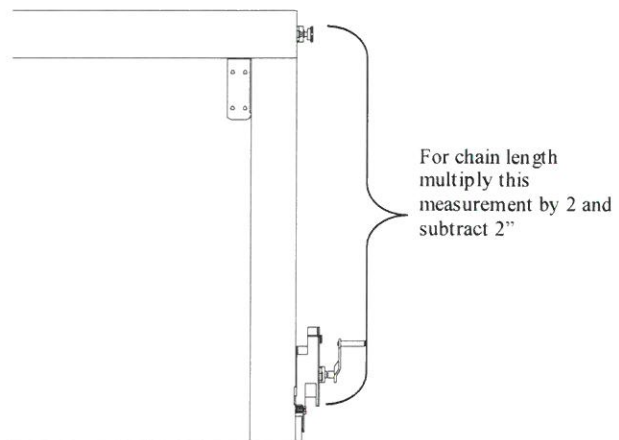

Figure 6
Installing the sprocket chain (S). Slide the gear box up so that the mounting bolts are at the bottom of the slots in the mounting bracket to find the chain length. Measure from the top of the sprocket on the roller box assembly to the bottom of the gear box, double this measurement and subtract 2", *see figure 6*. Cut the chain at this length with proper cutting tools, wrap the chain around the sprocket on the gear box and the sprocket on the head roller box, and connect the ends using the master link provided (Note: if necessary, loosen bolts connecting the gear box to the bottom rail and adjust to create or eliminate slack, then retighten bolts).